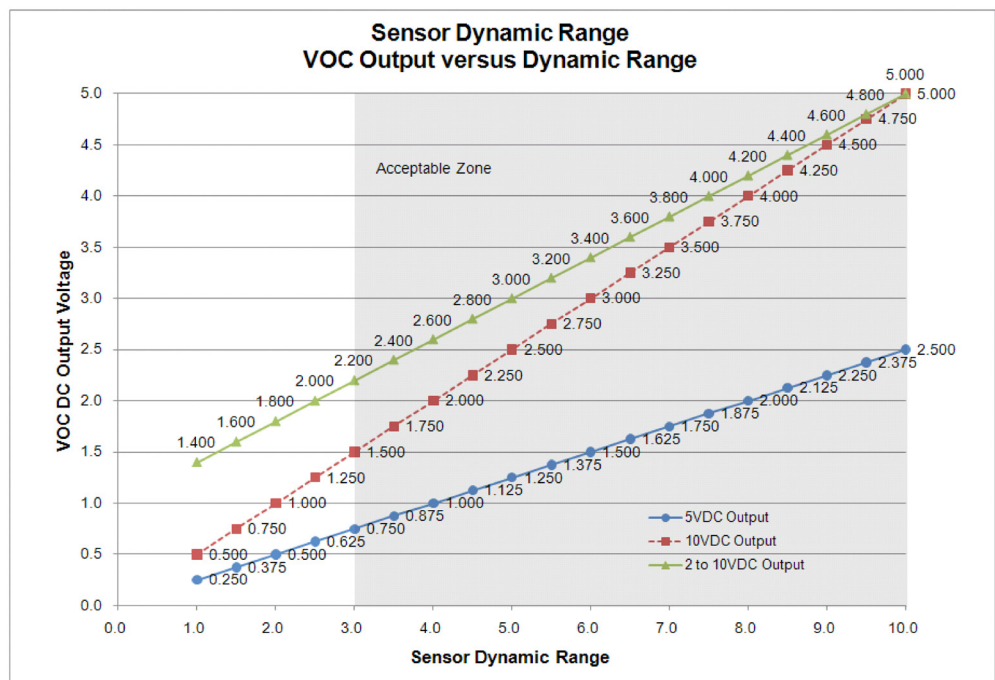

Fig 21: Acceptable Dynamic Range Output
- A. The VOC algorithm requires a minimum of 3.0 dynamic range for proper operation. Sensors reporting 3.0 or less dynamic range should be considered for replacement. (See Fig 21)